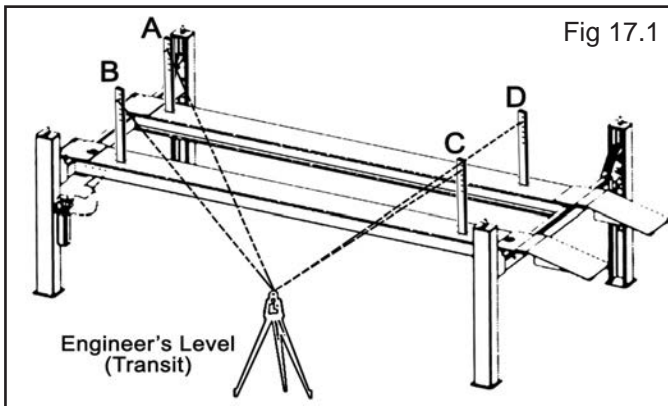

Fig 17.1
- Runway. (See Fig. 17.1)
5. Beginning with "A" position, sight the level to the target and mark the number or the graduation on the inch scale of the target that aligns to the cross hairs of the Level. (See Fig. 17.1)
6. Next, move the target and place it at point "B" on the runway. (See Fig. 17.1)
8. Adjust the adjustment nut on the safety ladder bar at the top of the Column at "B" until the cross hairs of the Level align to reference mark on the target scale. (See Fig. 17.1)
9. Repeat steps locating the target assembly at points "C" and "D" and adjusting safety ladders at each corresponding Column until the reference mark on the target scale is on the cross hairs of the Level. The Runways are now level at all four points. (See Fig. 17.1)